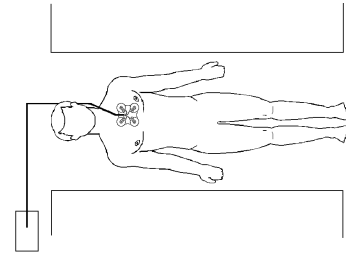

Figure 4-3. Patient Placed in Magnet Bore Feet First
- (5) Route ECG patient cable down the center of the bore, not touching the sides. **To further reduce RF current pickup, keep the length of the ECG patient cable within the bore to a minimum. This can very often be accomplished and is strongly recommended for large patients of "L" spine or similar exams by placing the patient in the bore feet first and routing the patient cable directly from the electrodes over the patients shoulder and out the bore (See Figure 4-3).** This configuration often results in a lesser length of ECG patient cable in the bore and a resulting lessened propensity to pick up RF energy.
- (6) **High RF Power may cause patient heating or burns. For scans with average S.A.R. > 1 w/kg, limit scan time to 5 minutes and pause at least 3 minutes between scans to allow ECG cable to cool.** Confirm that there is no heating of the cable after each sequence by asking the patient or by feeling the electrode lead wires yourself.